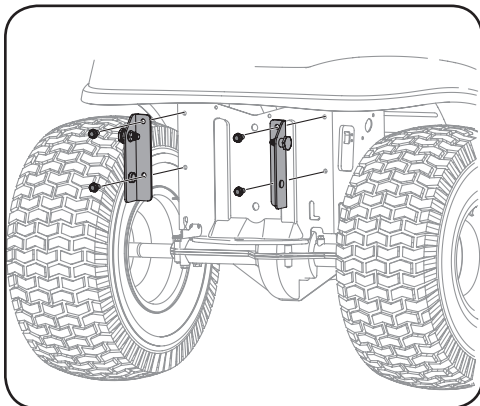

Figure 4-2
3. Mount the 700 series tractor mounting brackets to your tractor using four self-tapping hex screws included with your kit. See Figure 4-2.